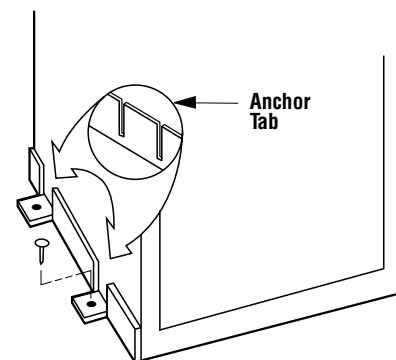

Figure 10
Step 4. Fireplace may be anchored to floor. Bend down four (4) anchor tabs located at the base of the fireplace and secure to the floor by nailing with 8d nails (**Figure 10, below**).